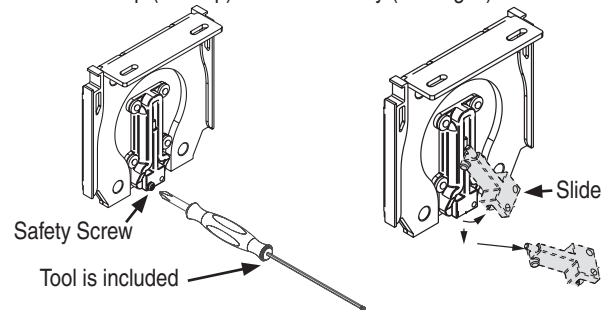

Figure 3
- ⑤ Remove Safety Screw from top idler endcap, then remove the slide (you will need this again later) (see Fig. 3).
- make sure the bottom of the slide is hooked into the Receiver (see Fig. 3).